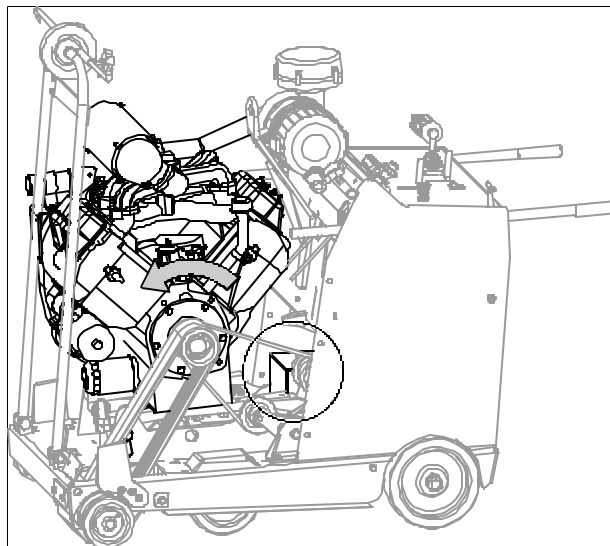

Fig. 38 — Rotate Engine Forward to Remove the Battery
4. Tilt the saw down and roll the engine as far forward as possible, to create the maximum access opening. See figure 38.